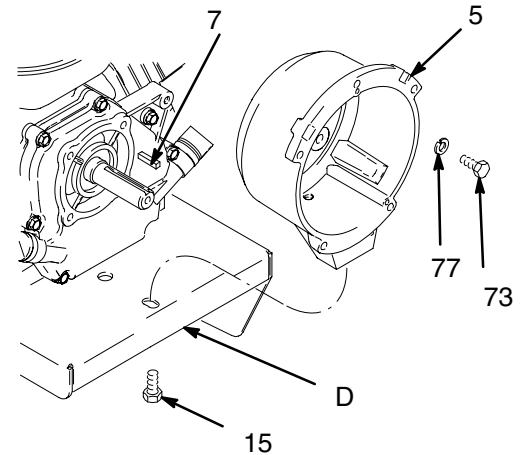

Fig. 11
1. Fig. 11. Remove four capscrews (73) and lock-washers (77) which hold clutch housing (5) to engine.
2. Remove screw (15) from under mounting plate (D).
3. Remove engine key (7).
4. Pull off clutch housing (5).
1. Fig. 11. Push on clutch housing (5).
2. Install four capscrews (73) and lockwashers (77) and secure clutch housing (5) to engine. Torque to 200 in-lb (22.6 N•m).
3. Install capscrew (15) from beneath mounting plate (D). Torque to 26 ft-lb (35.2 N•m).